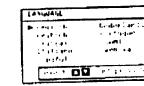

Fig. 1.
- Press the MENU button. The LANGUAGE menu appears. (See Fig. 1)